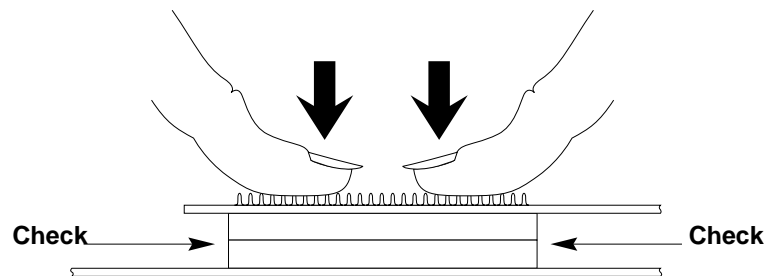

Figure 9 Pressing the Cosmo Compress Board Into the Slot Connector on the CPU Board
4. Press to seat the Cosmo Compress board's connector into the CPU board's connector (Figure 9).
- Place your fingers or thumbs on the Cosmo Compress board, above where the connector is located, as shown in Figure 9.
- Look underneath the Cosmo Compress board to see the 96-pin connectors. Due to the other components on the CPU board, it is difficult to see the connectors. The male and female connectors must be touching along the entire shared surface, as shown in Figure 9. Check each end of the connection.